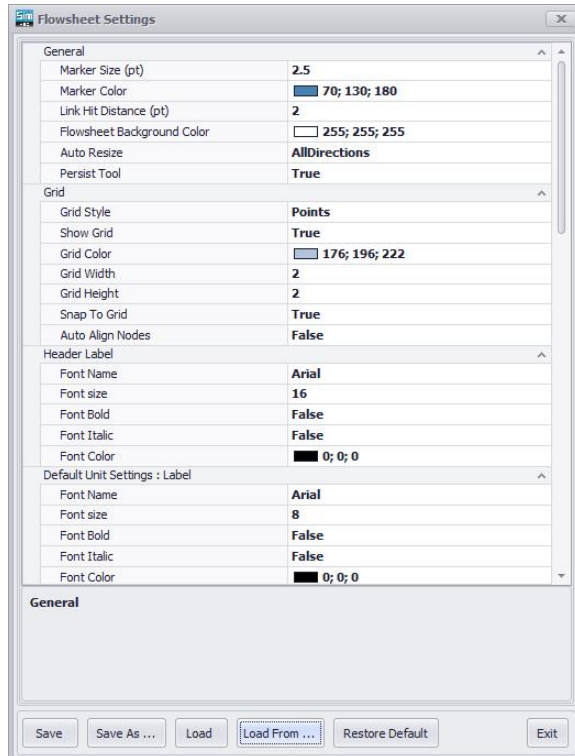

Fig. 13. Flowsheet settings.
1. View and edit **Flowsheet settings**, where the user can change or **restore default** settings of the flowsheet. Exit saves the settings and leaves this editor, see **Fig. 13**.